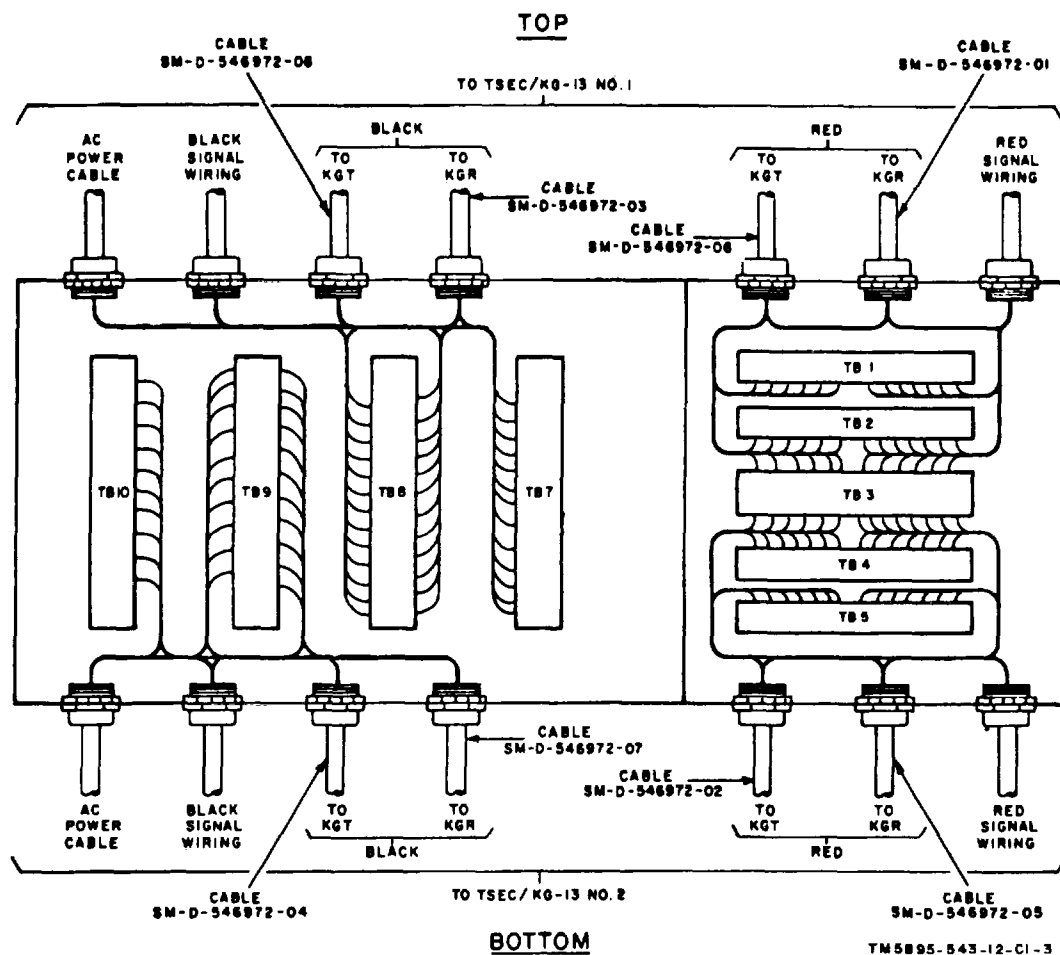

Figure 2-4. Rear view of synchronizer, cover removed.
a. Install cables and wiring through appropriate holes (para 2-5 and fig. 2-4) in the top and/or the bottom of the equipment case. Use cable couplings or grommets to protect and secure the cables and wiring.